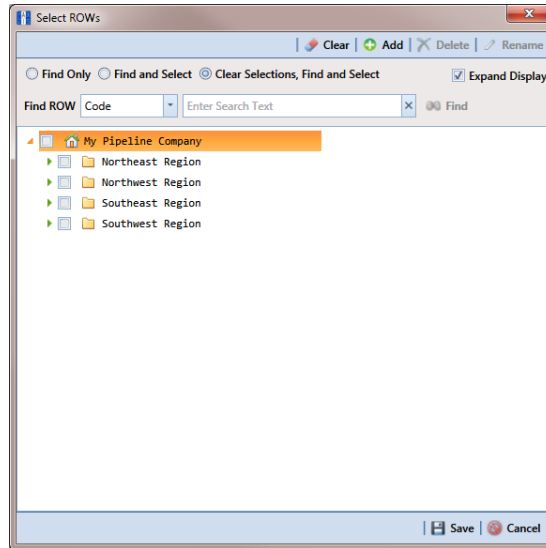

Figure 9-2. Select ROWs
- 1 Click the **Select ROWs** button  to open the *Select ROWs* window (Figure 9-2, page 456). Select one or more pipeline segments by clicking the check box for each pipeline segment. Click  **Save** to close the *Select ROWs* window.
- 1 Click the **Select ROWs** button  to open the *Select ROWs* window. Select one or more pipeline segments by clicking the check box for each pipeline segment (Figure 9-2, page 456). Click  **Save** to close the *Select ROWs* window.